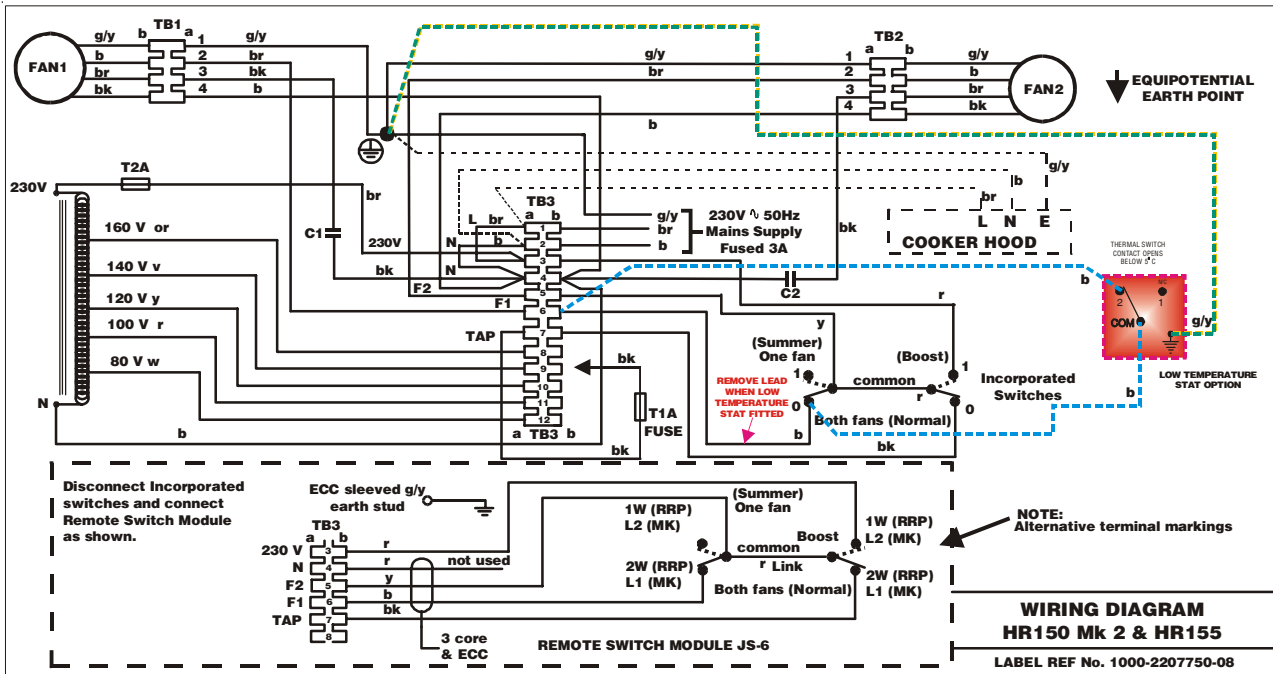

Fig. 8
- 4.5.1 If the heat recovery unit is to be loft mounted, a remote fan speed control/summer switch (JS6) is required (see section 1.1). This will usually be situated in the kitchen and must be connected to the unit by 3-core and earth (CMA Ref. 6243Y) and 2-core and earth (CMA Ref. 6242Y) 1mm² PVC covered cable in accordance with the relevant wiring diagram (Fig. 8 or 9).
Note: The switch terminal markings differ according to manufacturer. Referring to Fig. 8 or 9: